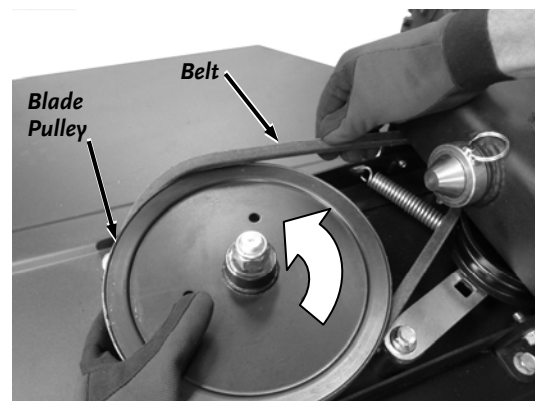

Figure 39
2. Turn the Belt Pulley with one hand while using the other hand to work the belt out of the Pulley groove (*Figure 39*).